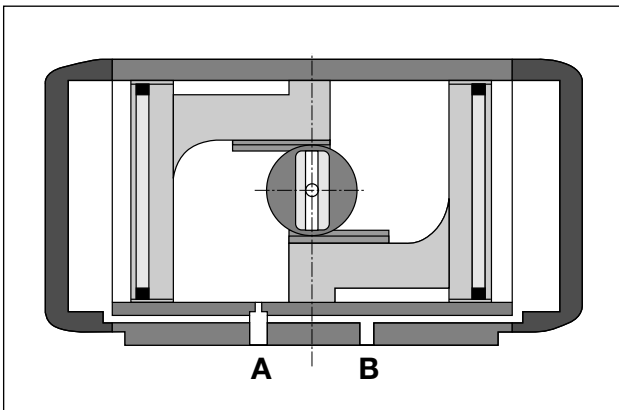

Fig. 1 Revo actuator series R
**On an actuator of standard design the supply of control medium through port "A" causes an anti-clockwise and the supply through port "B" a clockwise actuation. Spring reset actuators must only be supplied with control medium through port "A". See Fig. 1.**